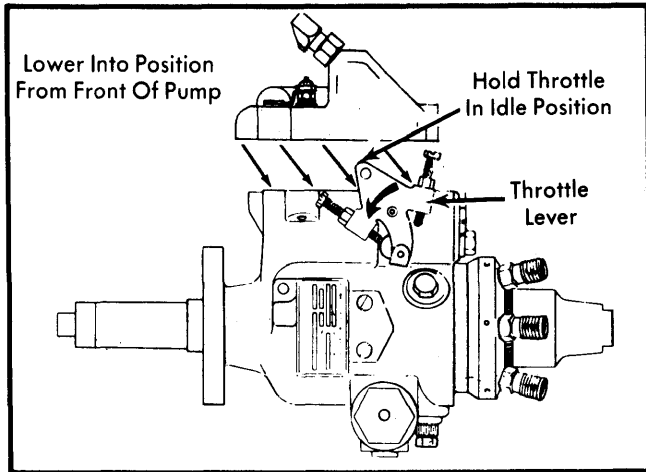

Fig. 13 Installing Injection Pump Cover
15) Repeat step 14) and install cover. See Fig. 13.